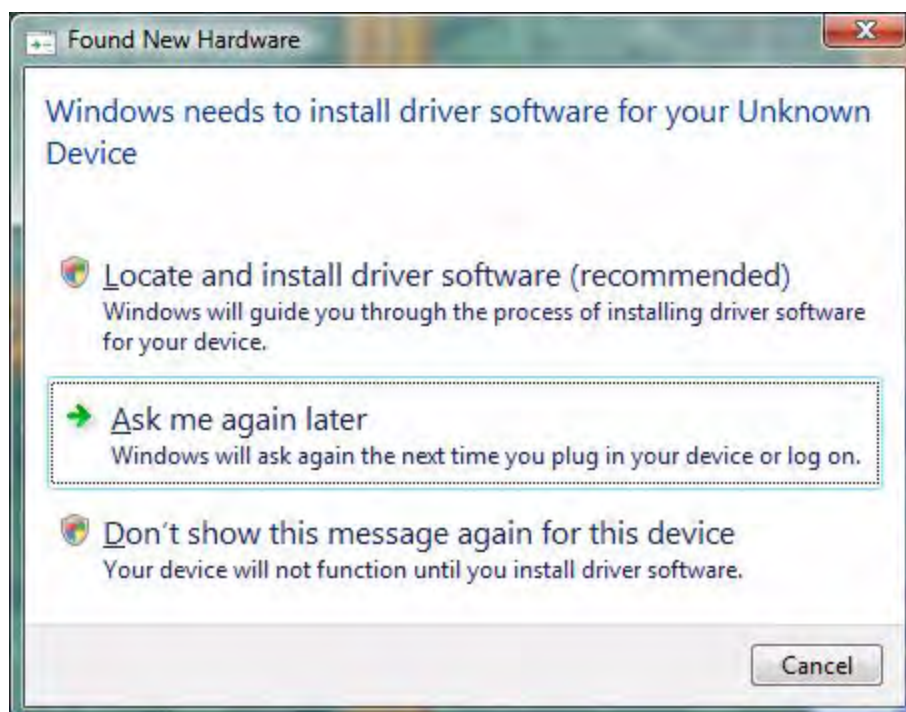

Figure 34. Found New Hardware Dialog, Windows Vista
2. After the PC detects the new hardware, it will display the Found New Hardware Wizard dialog box, shown in Figure 34. Click **Locate and install driver software (recommended)**.